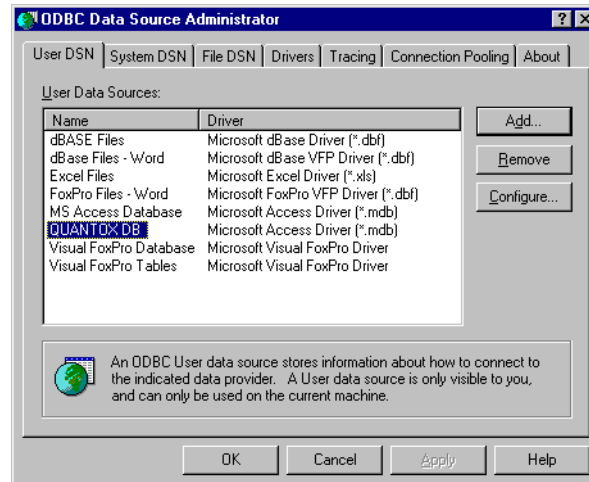

Figure B-25: ODBC Data Source Administrator Window
4. In the ODBC Data Source Administrator window, select the QUANTOX DB and click Configure (Figure B-25).